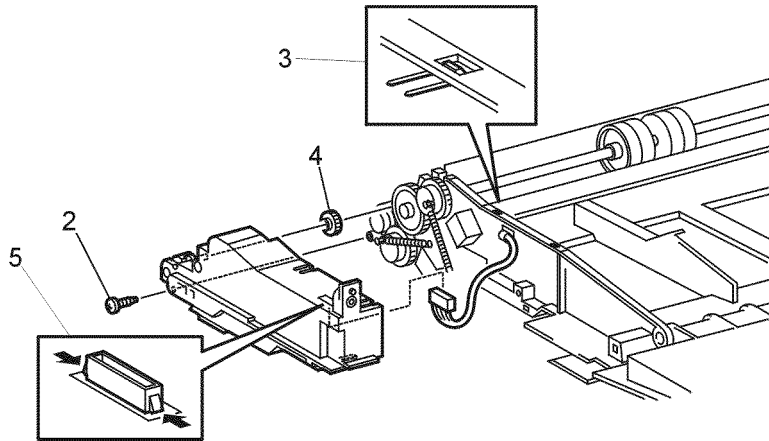

Figure 1 MBF Gear Cover
4. The MBF 2 Idler Gear (Figure 1) may come off with the cover.
5. Release the locking tabs and remove the harness from the MBF Cover (Figure 1).